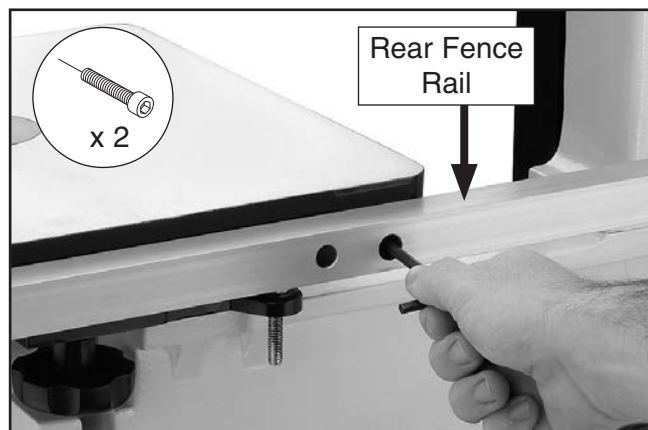

Figure 16. Installing rear fence rail.
13. Attach the rear fence rail to the rear of the table with (2) 1/4"-20 x 5/8" cap screws, as shown in **Figure 16**.